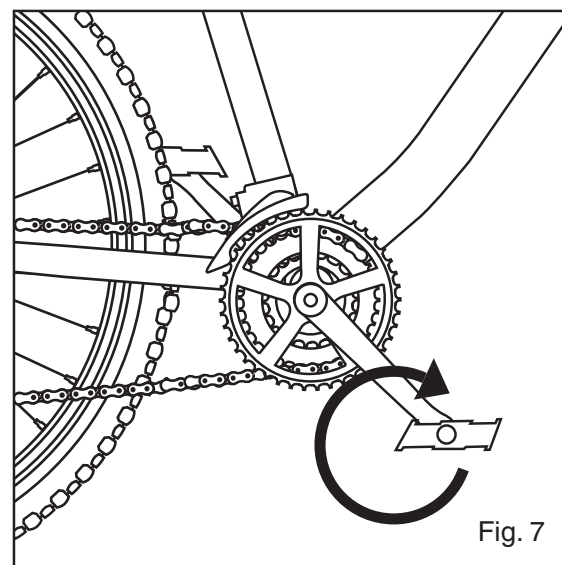

Fig. 7
5. Take right pedal and install on drive side of bike turning clockwise, tighten with a 15mm pedal wrench or thin 15mm wrench. Take left pedal, install on non-drive side and turn counter clockwise to install. You will always be tightening toward the front of the bike. (Fig. 7)